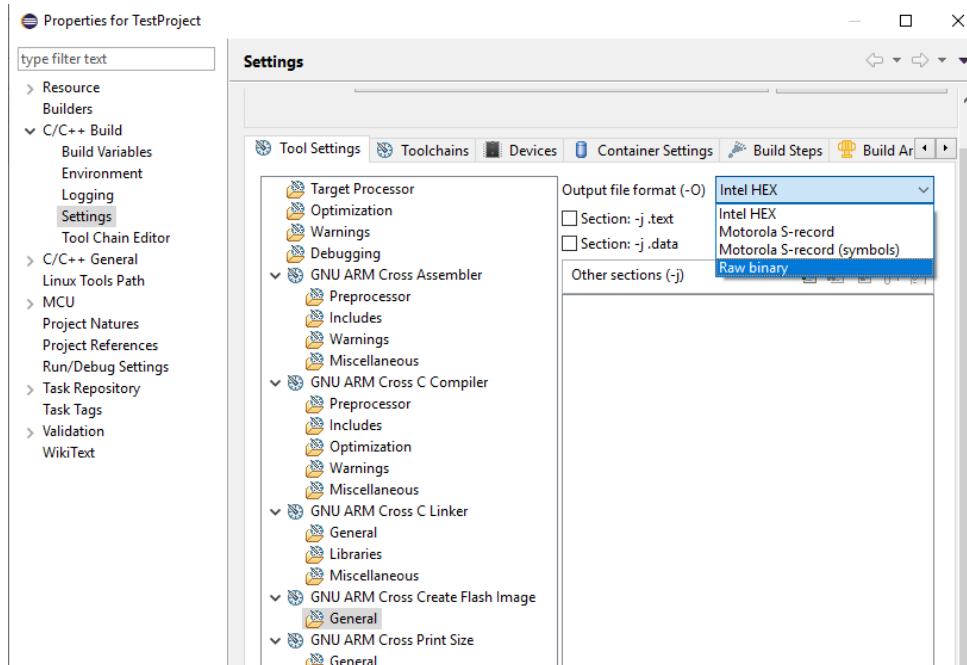

Figure 2-27 Setup Output File Format
12. If the created project is a executable one, Figure 2-27 shows how to select the output file format in **Properties** → **Settingg** → **GNU ARM Cross Create Flash Image** → **General** path.